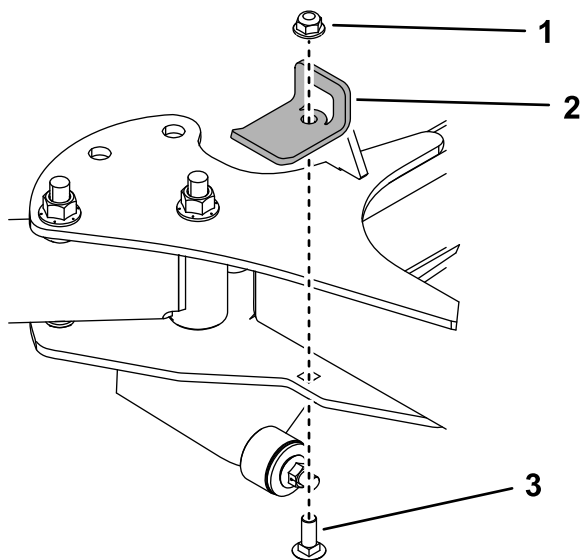

Figure 24
8. Remove the stop brackets (Figure 24).